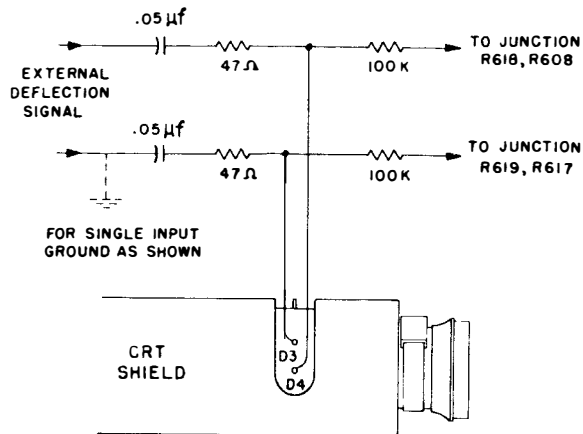

Figure 3-2. Oscilloscope AN/USM-117(), External Connection to Cathode Ray Tube
(1) Turn the **POWER** switch to **OFF** and remove access cover.
(2) Disconnect deflection leads from crt pin terminals.
(3) Connect external circuitry illustrated in figure 3-2 to either set of deflection plates.
(4) Position trace on horizontal or vertical axis using normal front panel controls (these controls remain active when circuitry shown in figure 3-2 is used).